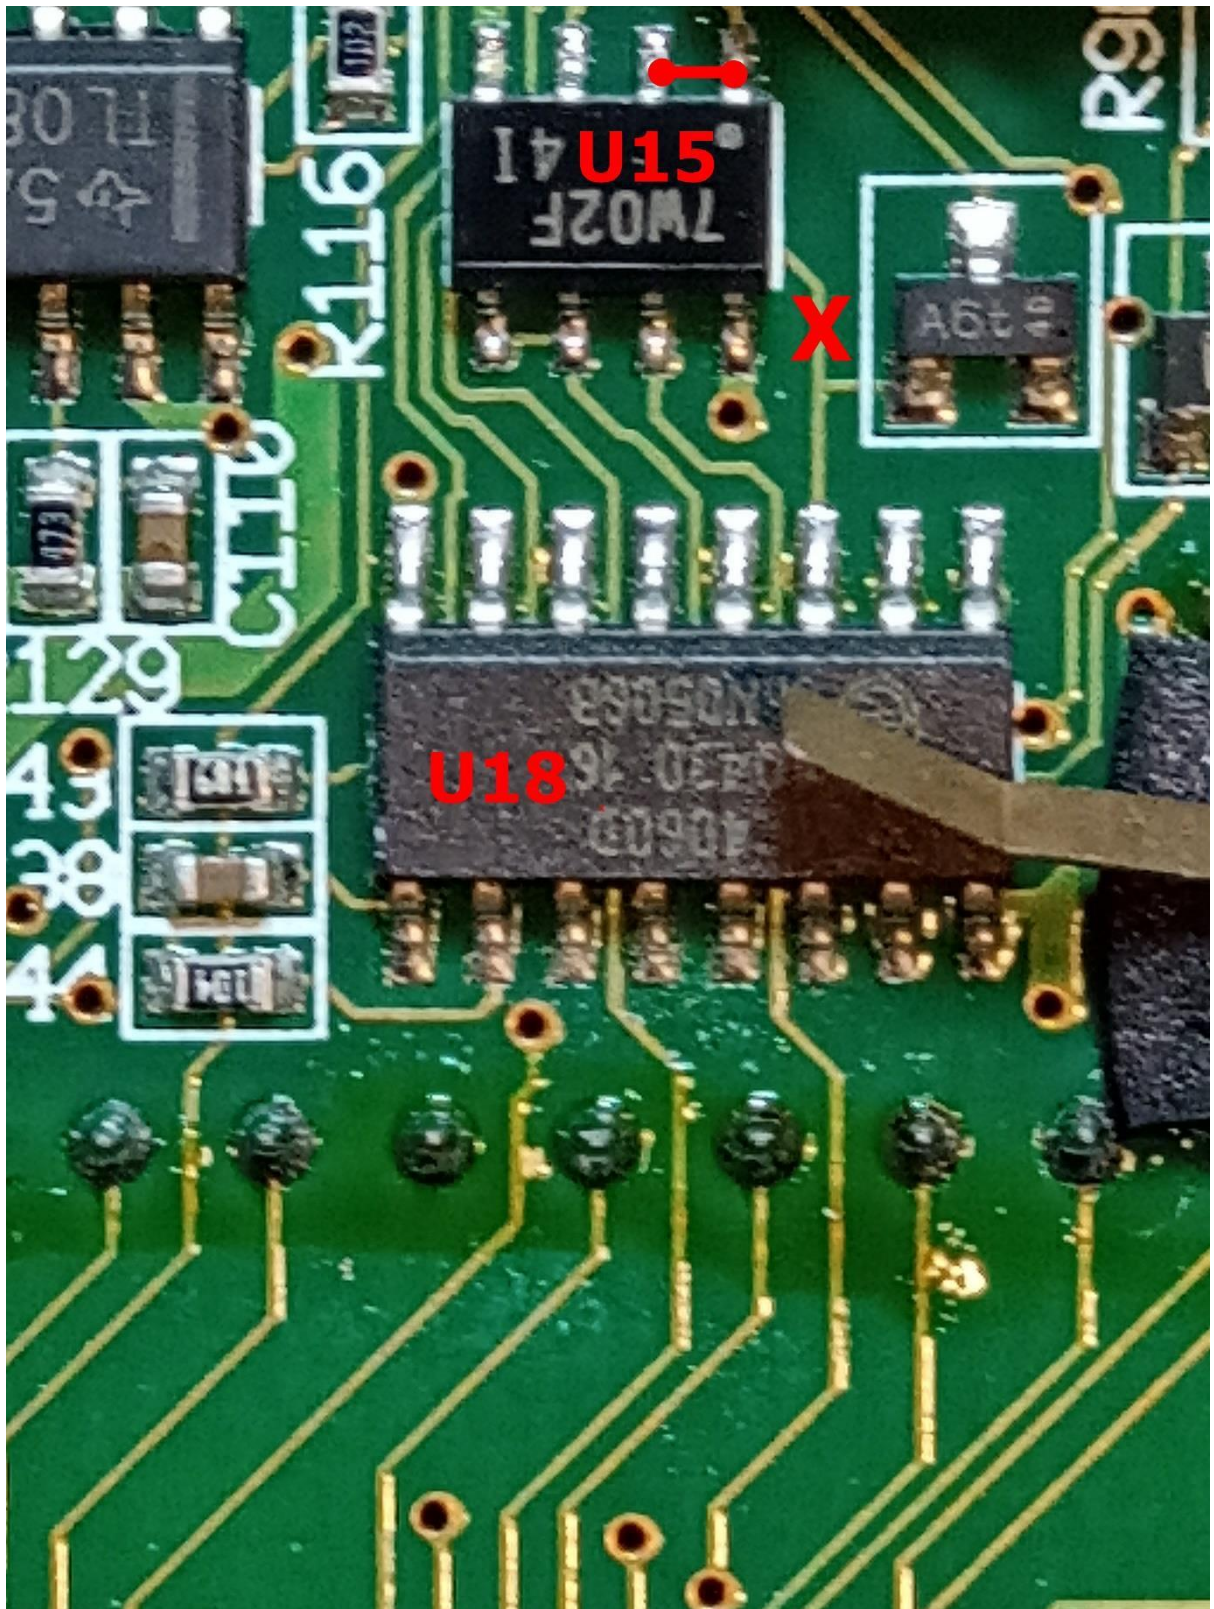

Figure 3 Modifications required to disable the PTT timer (X=track break)
16. The track can easily be broken using a scalpel (make sure you break it exactly as shown in figure 3). The link can be easily made using a small blob of solder. A good desk lamp and a magnifying glass could be useful here.